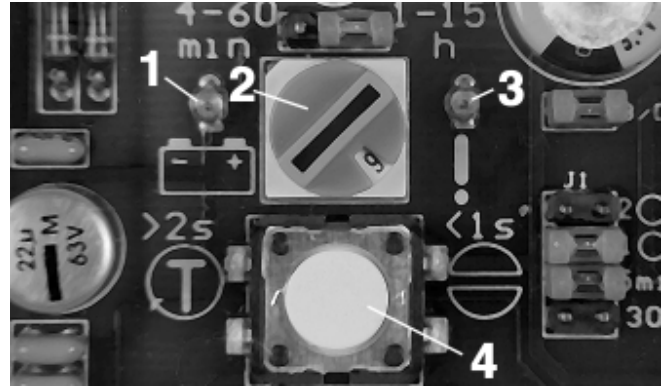

Fig. 14 - LED of the printed circuit board
Note: It is also possible to acknowledge any fault or to trigger an additional lubrication cycle via pushbutton 4 of the printed circuit board (Fig. 14).
- The signal lamp or the LED fig. 14 indicates the operating state of the centralized lubrication system.
- The faults are indicated by different flashing frequencies of the signal lamp or the LED fig. 14. See "Fault Indication".
*Note: It is also possible to acknowledge/reset a fault or trigger an additional lubrication cycle by means of the pushbutton on the printed circuit board (Fig. 14). For this, press it < 1 second and > 2 seconds. **Condition: The machine contact or driving switch must be switched on.***
- To check whether power is applied to the printed circuit board, observe whether the left-hand LED 1, Fig. 14, is lit.